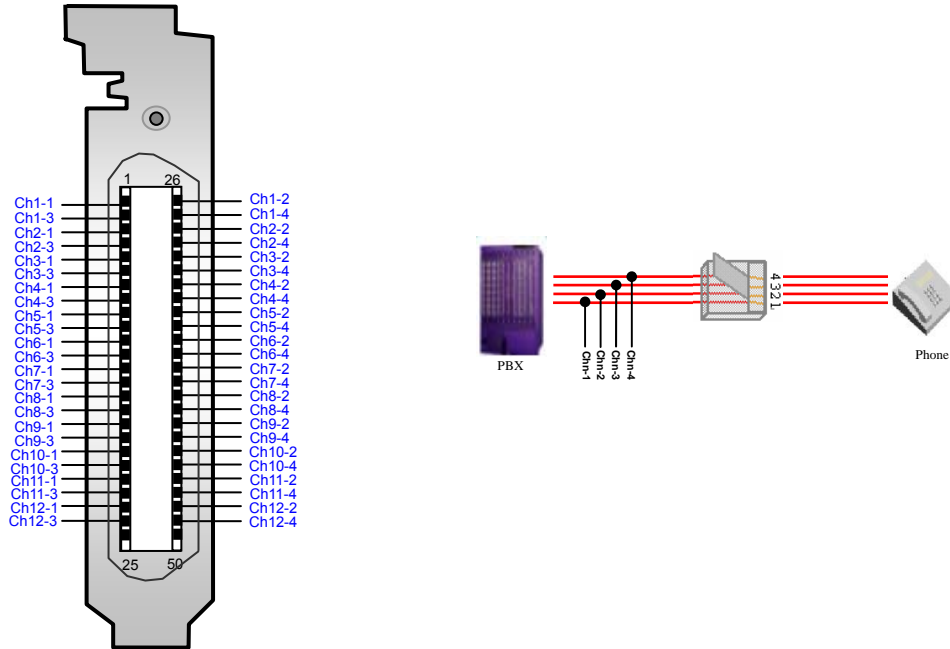

Figure 2-20
- 3) NOTEL M2250 digital phones: See Figure 2-20 below. In parallel, connect the 1st and 2nd leads of the communication line between the PBX and a phone to CHn-1 and CHn-2, and the 3rd and 4th leads to CHn-3 and CHn-4.